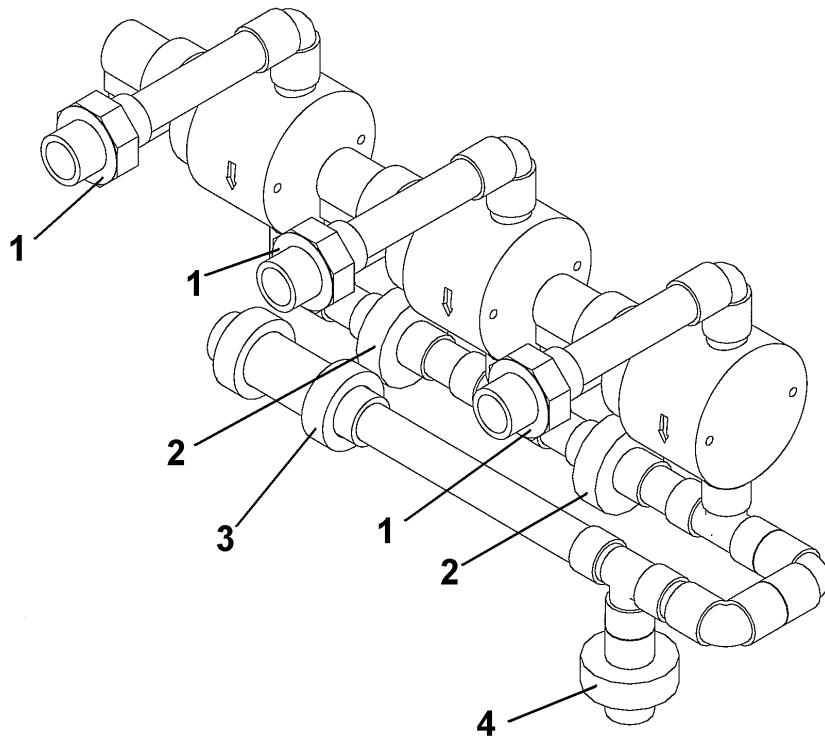
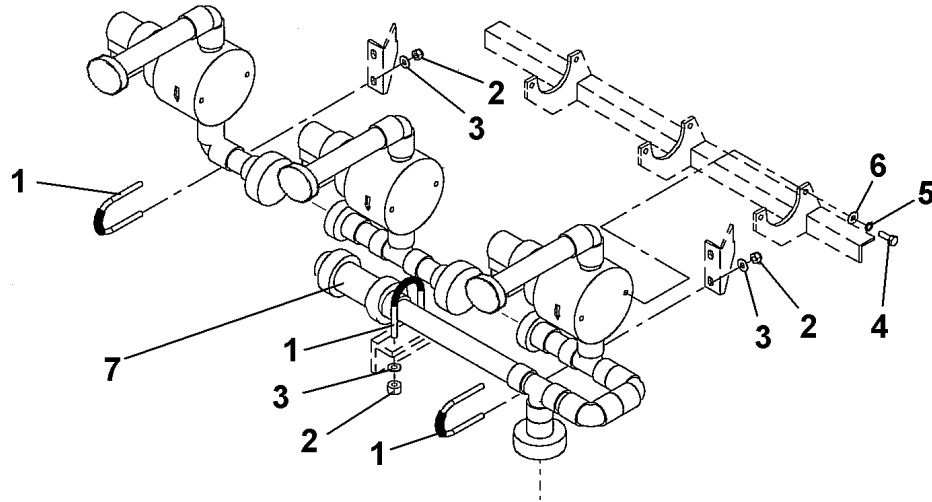

Figure 7. UF Reject Piping Unions.
Figure 8. UF Reject Piping Assembly.
UF reject piping can be removed as an assembly or as individual pieces by way of the unions. Unions (1) connect the entire spool piece to the UF cartridges, (2) inter connects the three valve spool pieces and (3,4) connects to the rest of the piping. See Figure 7.
1. Remove nuts (2), washers (3) from U-bolts (1). Remove U-bolts. See Figure 8.
2. Remove screws (4), lock washers (5), and washers (6) from valve supports.
4. Remove the unions as needed to remove the spool pieces. See Figure 7.
5. Remove check valve (7) if needed.
1. Refer to Figure 7 and Figure 8 for this piping.
3. Install the check valve (7). Ensure that the arrow on the body of the check valve is in line with the direction of the flow.
5. Install the U-bolt (1) and fasten the lock nuts (2) washers (3) to the U-bolt (1).
6. Fasten the solenoid valves with screws (4), lock washers (5) and washers (6).